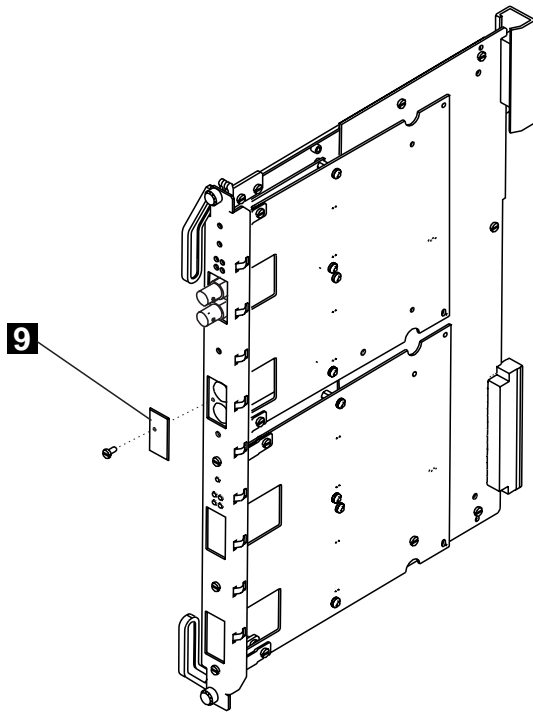

Figure 15. Attaching the Dummy Port Cover
- **9** If you are installing only one I/O card on the motherboard, cover the unused port opening with the dummy port cover (**9** in Figure 15).